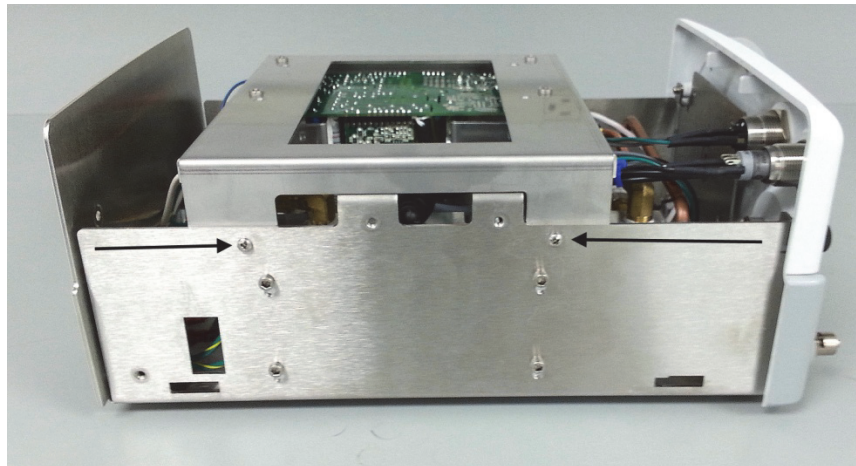

Figure 1
3. Remove the Power Supply Assembly screws (2 each side). See figure 1